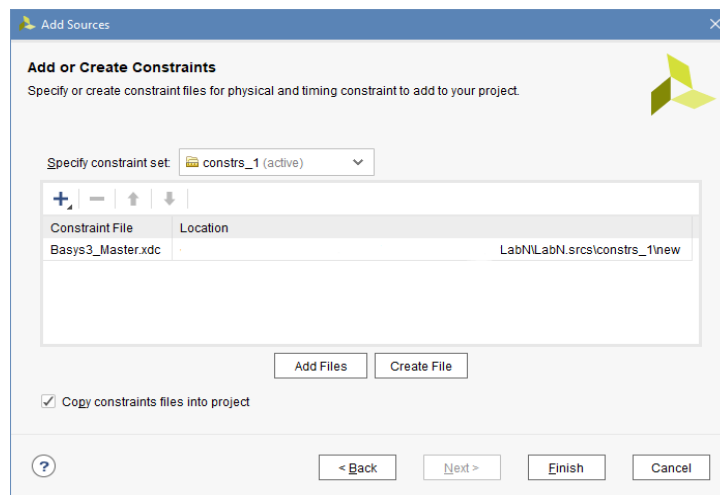

Figure 13 Add design constraints file
1. To add this XDC file to your project click on "File -> Add Sources..." and select "Add or create constraints". Then click "Next>". In the "Add Sources" window click on "Add Files" and select the Basys3.xdc file from the place where you've saved it. Next make sure that the checkbox "Copy constraints files into project" is ticked and click "Finish" as shown in Figure 13.